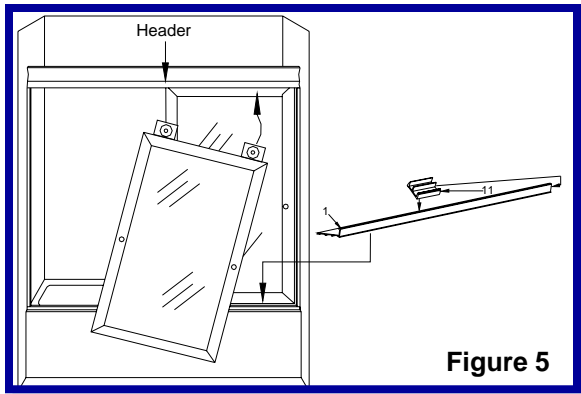

Figure 5
- Lift the outside door glass and insert in the same manner as the inside door. **(See Figure 5)**